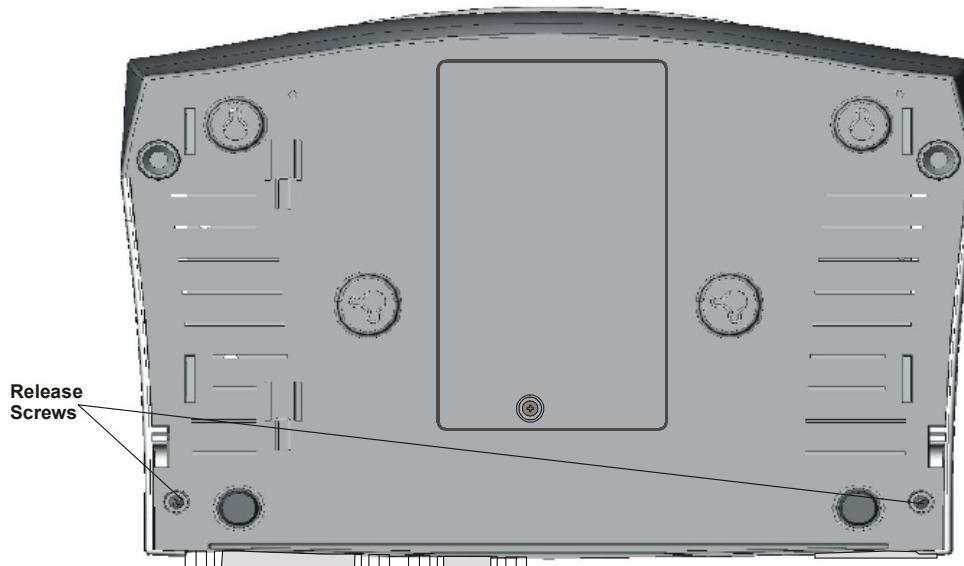

Figure 2-3. FCD-E1LC Cover Screws
1. Refer to Figure 2-3 and open the screws that fasten the FCD-E1LC cover. Keep screws in a safe place, for reuse.
3. Refer to *Figure 2-3* and fasten the cover with its screws.